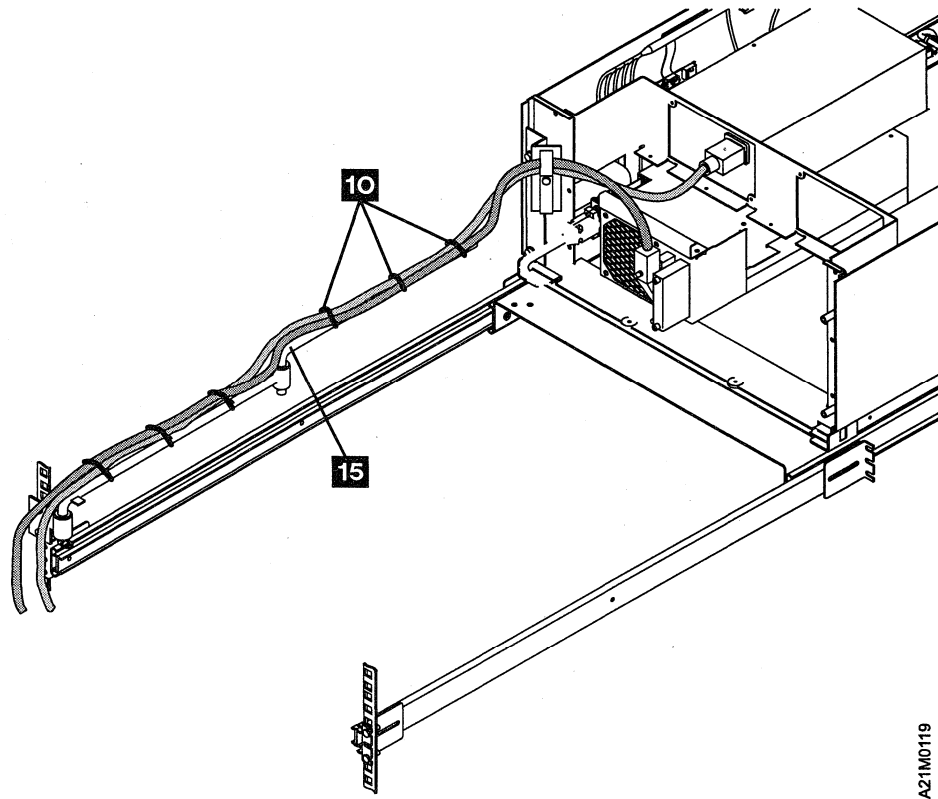

Figure 63. 3570 and Articulated Arm Extended for Model C22 Single Drive
- \_\_\_ Step 6. See Figure 63. Push the 3570 completely forward so it will lock into position, then extend the articulated arm to its full length toward the 3570 library.